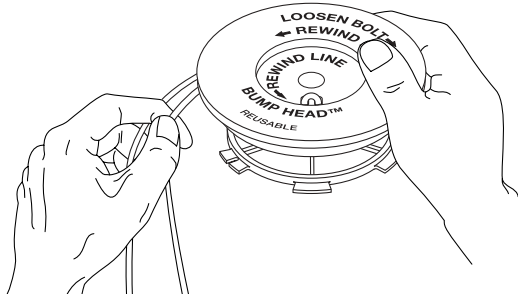

Fig. 56
7. Wind the lines in tight even layers, onto the reel (Fig. 56). Wind the line in the direction indicated on the inner reel. Place your index finger between the two lines to stop the lines from overlapping. Do not overlap the ends of the line. Proceed to step 11.